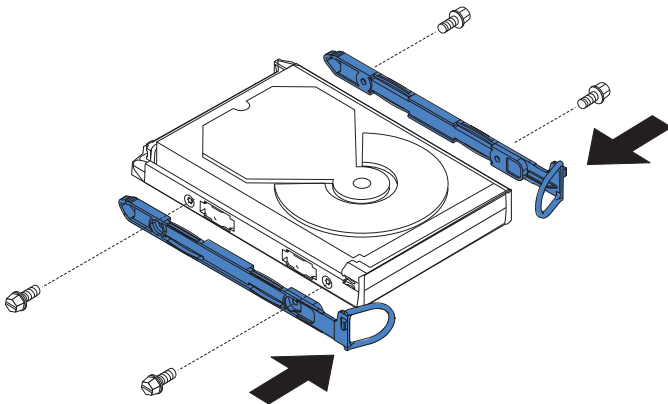

Figure 104. Attaching the rails to the SAN Volume Controller 2145-4F2 disk drive
9. If you are exchanging the disk drive for another, locate the rails and screws that are shipped with the new disk drive. Attach the rails to the disk drive, as shown in Figure 104.